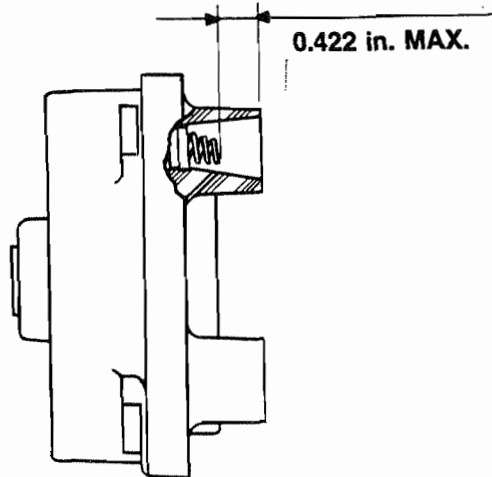

Figure 704. Measuring Contact Spring Height
- F. Inspect contact springs (22), on tower side of block (21). If any look fuzzy or white, or show evidence of burning, rust or corrosion, remove with needle nose pliers and discard. Check springs for proper height by measuring down from top of tower. If measurement exceeds the .422 inch dimension shown in Figure 704 spring may be improperly installed. Using a scribe, or similar pointed instrument, wiggle top of spring in a circular motion to be sure only bottom turn of spring is captivated in groove of block insert. Recheck spring height and if measurement still exceeds .422 inch, remove and replace spring.
- G. Using a small scraper or knife, clean electrodes of distributor block (21) to remove any carbonized deposits. Do not attempt to grind or machine electrodes.
- A. Using a fluke 8840A digital multimeter, measure resistance between points T1 and T2 on capacitor. (See Figure 704.)